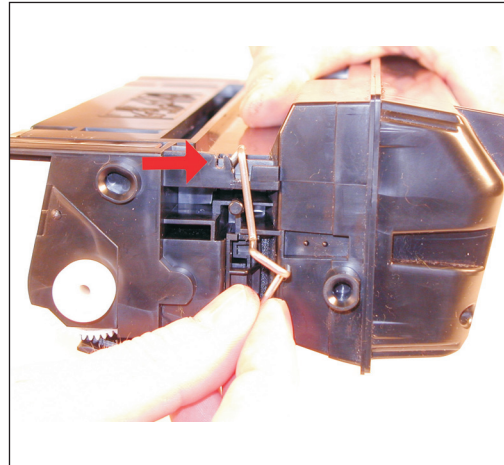

Figure 12
7) Pry up the bar of the drum cover on both sides of the cartridge. Remove the drum cover. See Figure 12